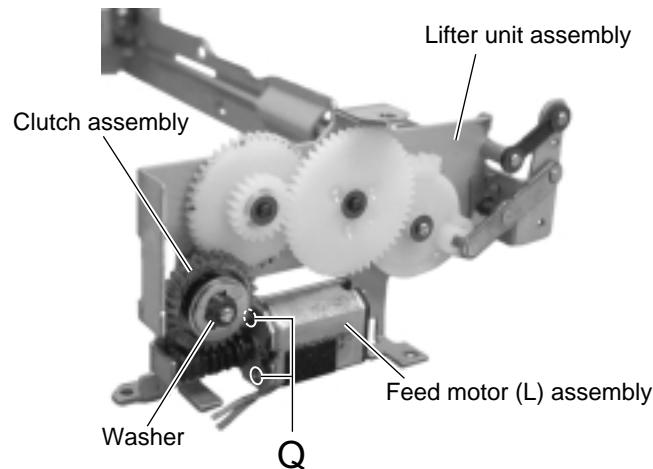

Fig.14
■ Removing the feed motor (L) (See Fig.14)
- Remove the two screws **Q** attaching the feed motor (L).